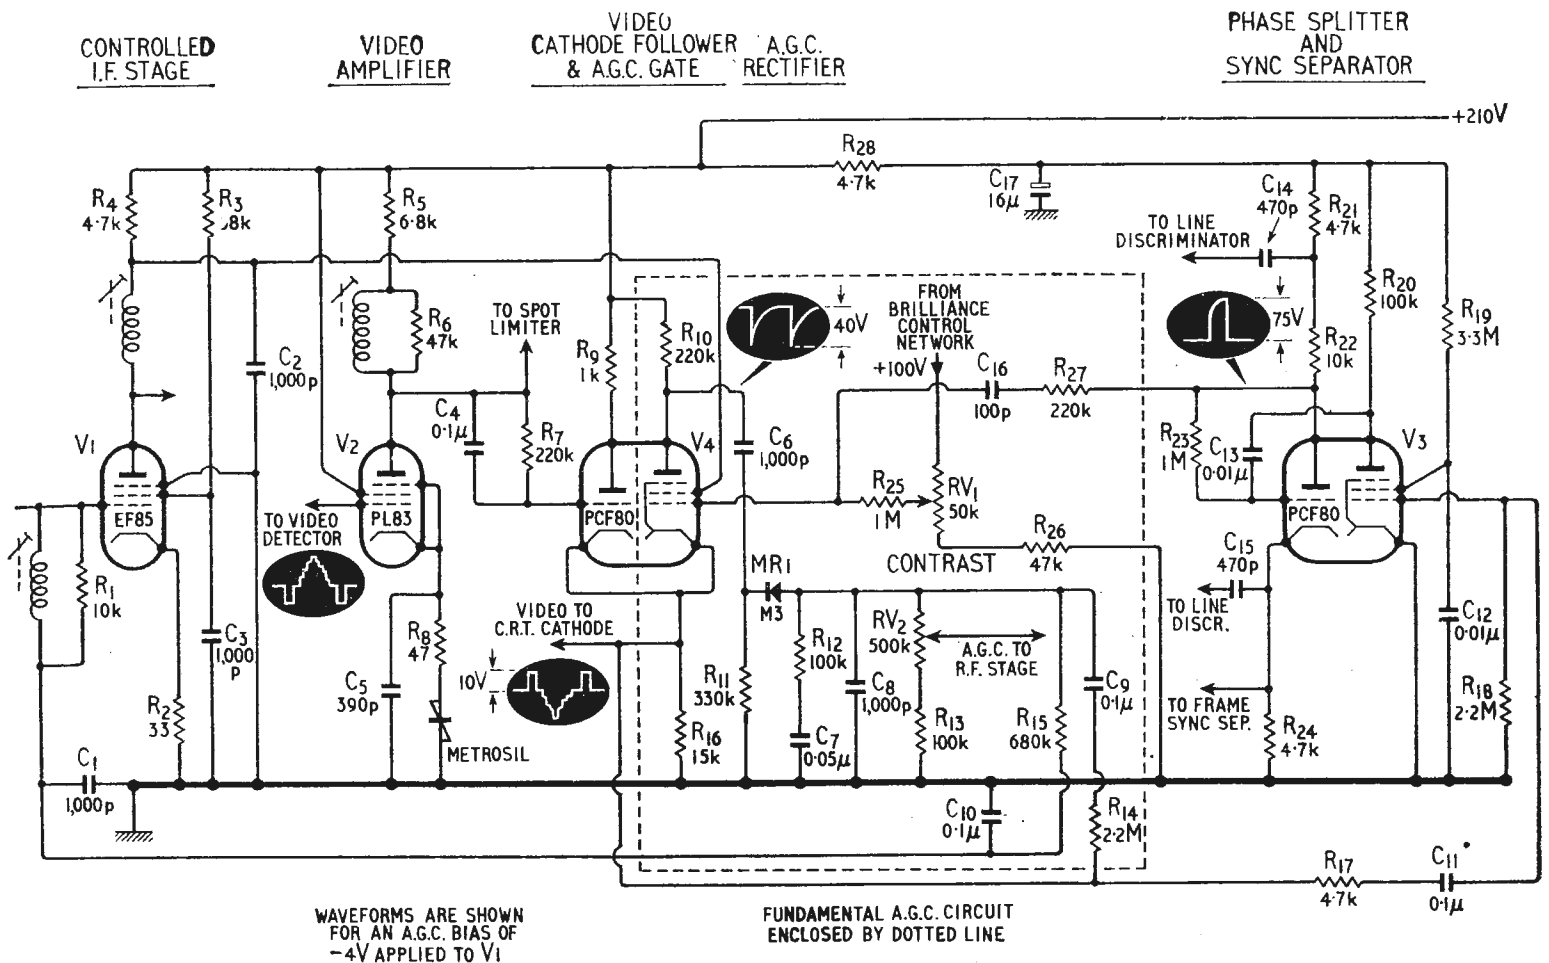

Fig. 2. Sync-pulse-gated vision a.g.c. system in prototype circuit.
The prototype circuit is shown in its environment in Fig. 2. V1 is the controlled i.f. stage, V2 the video amplifier, V3 the sync. separator and phase splitter
No camera or display tubes are used in the new system which depends on electronic analysis of the 625-line picture and its re-synthesis at 405-lines. Fig. 1 illustrates the principle involved. The video signal equivalent to each horizontal line is sampled at 600 regularly spaced intervals by a high speed transistor switching system operating at the 625-line scanning speed (Fig. 2(a)). A low-pass filter is allocated to each vertically aligned element of the lines and this performs two functions (1) to eliminate frequencies associated with switching transients and the line repetition frequency and (2) to "stretch" the response in time due to the delay in the filter. Each of these 600 filters may be regarded as being responsible for a vertical strip element of the picture and the potential at its output will be continually varying as shown by the smoothed core in Fig. 2 (c). The network has a sine-squared response with a half-amplitude duration equal to the line interval of the incoming signal.
Fig. 2. (a) Sampling pulses at line frequency corresponding to a vertical strip of the picture applied (b) to one of the 600 filters, the smoothed output of which is shown at (c). This is then sampled (d) at 405-line frequency.